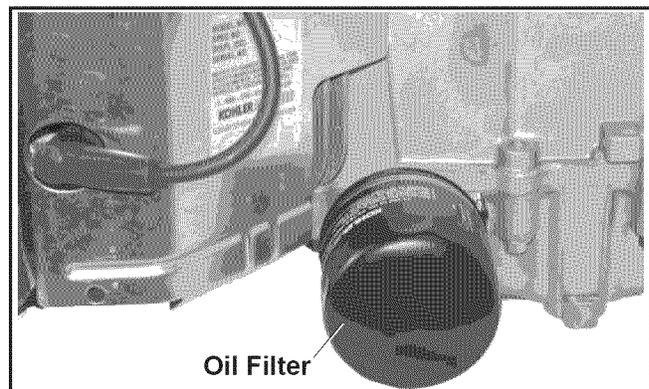

Figure 9. Oil Filter Location.
1. Open the door on the blower housing to access the air cleaner element. See Figures 9 and 10.